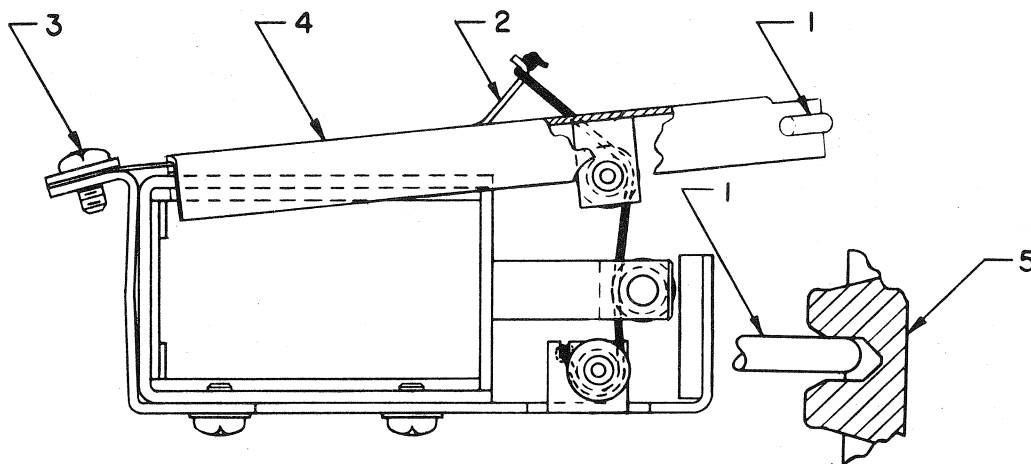

Figure 4-2 Film Actuator Alignment
- 4.26 Film Actuator Assembly Alignment (Refer to Figure 4-2).